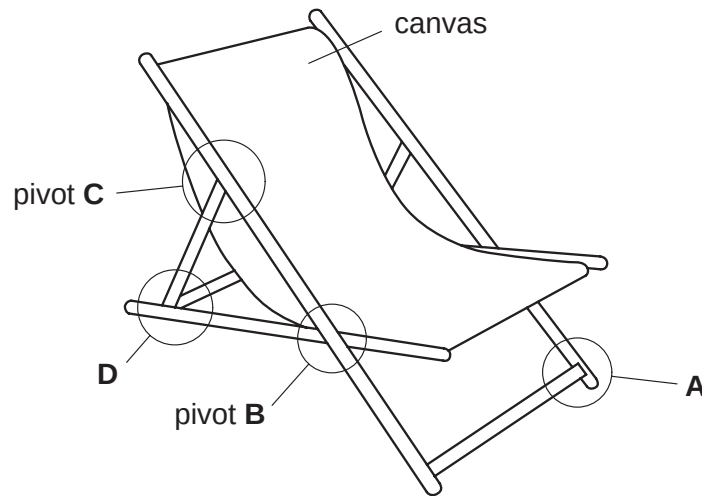

Fig. 7
- 7 Fig. 7 shows a folding chair which is to be used outside. The frame of the chair is made from wood with a cross-section of 50 mm × 25 mm.